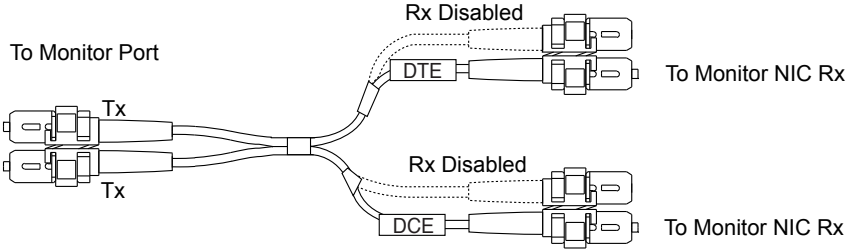

Figure 5: Net Optics Custom Monitor Cable
1. Using a Net Optics Custom Monitor Cable (see Figure 5), connect the single-duplex end to the Regeneration Tap Monitor Port A or B.